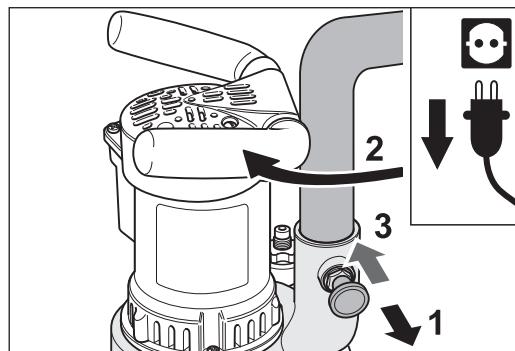

Fig. 33 Pull out the stop bolt (1) and simultaneously turn the pipe socket (2). Then release the stop bolt (3). It **must** snap into place in the pipe socket!
- 1 Pull out the stop bolt in the fan house (fig. 33, 1).
- 2 At the same time, turn the pipe socket until the dust bag is positioned over the attachment (fig. 33, 2) and the stop bolt noticeably snaps into place in the pipe socket when released (fig. 33, 3).